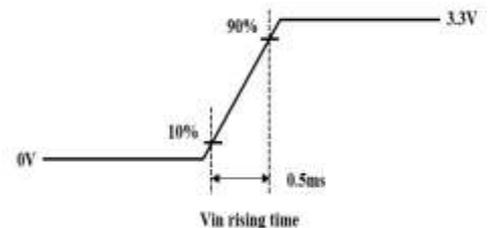

Figure 4. Inrush Measure Condition
- 3. Measure condition (Figure 4)